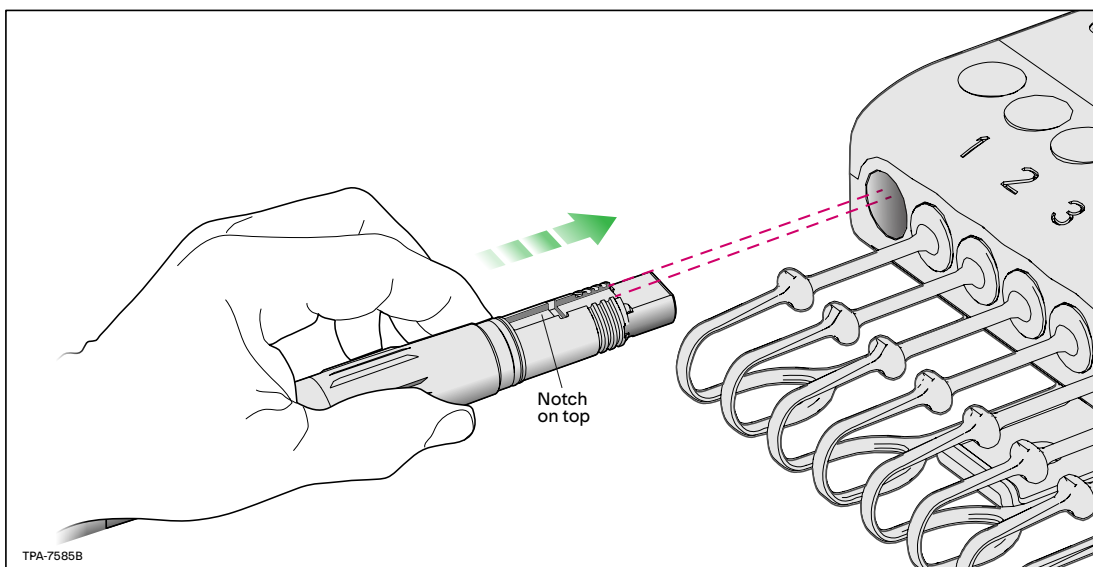

Figure 23
**Step 5:** Align the notch on top of the connector with the port button on the terminal. (Figure 23)